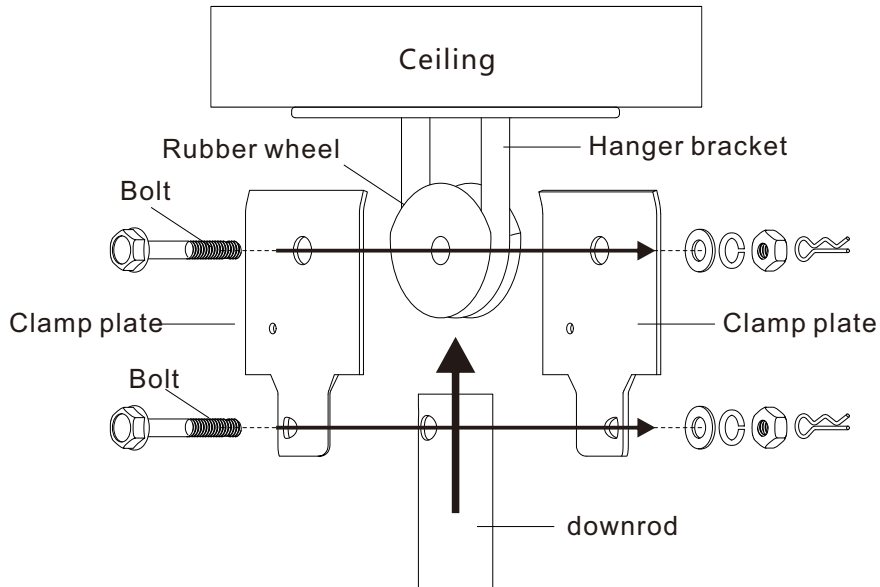

Figure 10
1. Wheel-type hanger installation(Fig 10):